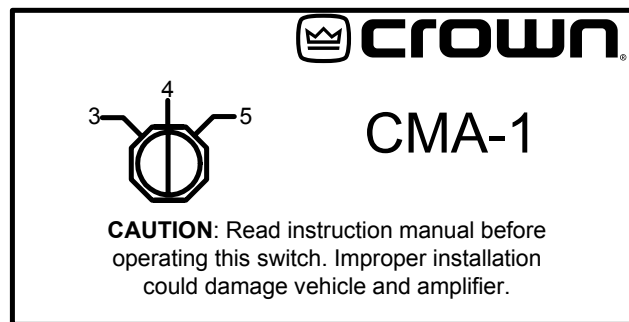

Fig. 8 Switch Position for 4 CH Operation
2. Set the amplifier switch to 4 CH as in **Figure 8**. This provides the following output powers: